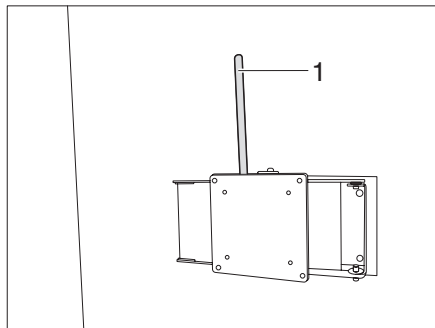

Fig. 86 Bracket with jointed arm (Variant 4)
- Pull the lever (Fig. 86,1).
- Push the lever (Fig. 86,1) back up into the initial position to lock.